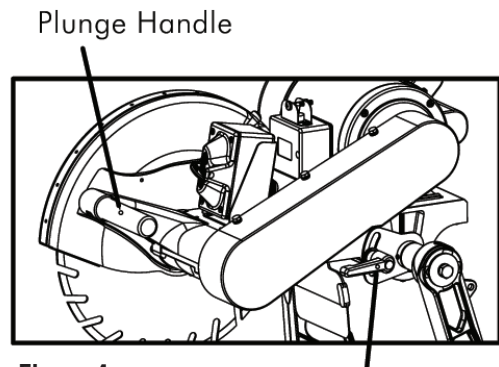

Figure 4
2. To adjust the VX141MSPRO's cutting depth, rotate the depth control knob counter-clockwise while holding the plunge handle. See *Figure 4*. Only loosen the knob enough so the cutting head freely moves.